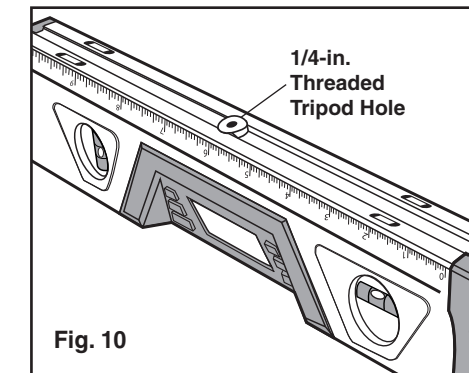

Fig. 10
ALIGNMENT - TO USE LEVEL WITH TRIPOD (Figs. 10, 11 and 12)
3. Screw the level to the tripod using the 1/4-in. threaded hole located in the center of the working surface of the level (see Fig. 10).
ALIGNMENT - TO USE LEVEL WITH TRIPOD cont. (Figs. 10, 11 and 12)